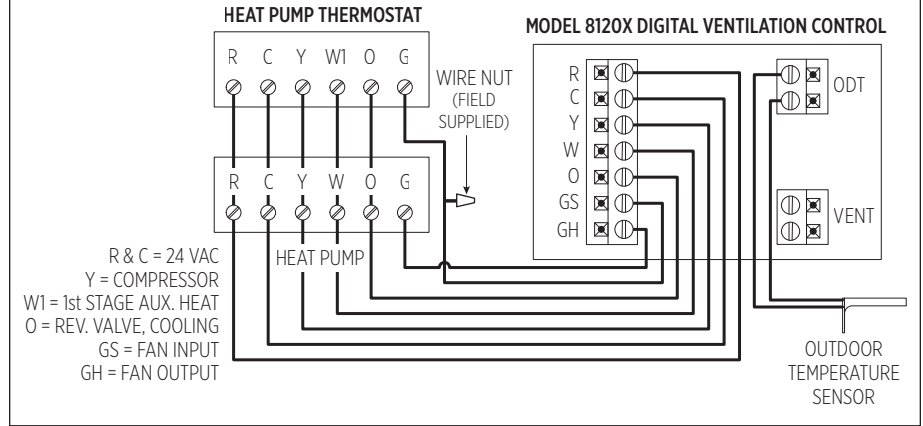

FIGURE 3 - WIRING TO MODEL 8140NC FRESH AIR VENTILATOR
3. Run a 2-conductor cable from the control to either the damper in Model 8126X installations or to the Model 8140NC Fresh Air Ventilator and wire according to **FIGURE 3** or **FIGURE 4**.